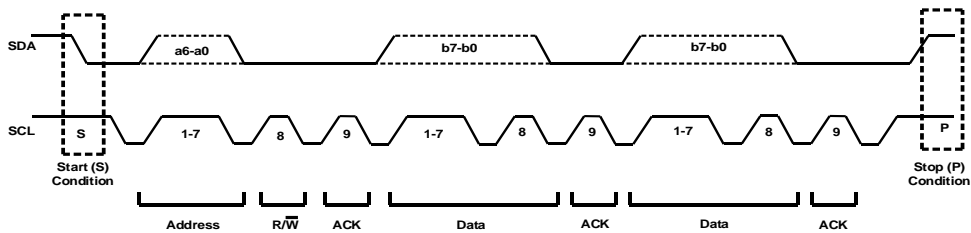

Figure 12: Data Transfer across the PMBus
The start and stop conditions are signaled by the master device, and signify the beginning and end of a PMBus transfer, respectively. The start condition (S) is defined as the SDA signal transitioning from high to low while the SCL is high. The stop condition (P) is defined as the SDA signal transitioning from low to high while the SCL is high (see Figure 12).